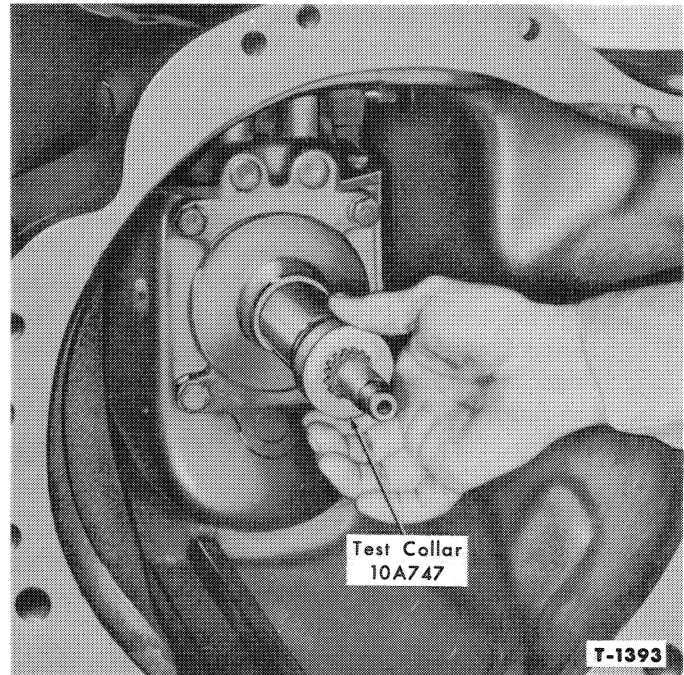

Figure 38—Checking Shimming with Shim Test Collar
5. After end play has been removed, the Sherman Transmission should be preloaded by removing approximately 0.005" to 0.007" thickness of shims. The shaft will then offer snug resistance with no bind when turned by hand with a shim Test Collar 10A747A as shown in Figure 38.
7. Place a new thrust washer (47) and the roller bearing (21) on the front of the drive shaft (22). Position a new support gasket (25) on the support assembly (27), and install the support assembly and clutch shaft to the gear case. Be sure the drain slot in the support assembly faces down. Secure the support assembly to the gear case with four hex head bolts (29) and lock washers.
8. Install the hand shift rod (1) to the selector shaft with an Allen head bolt (3) and lock washer and check the shifting of the transmission.